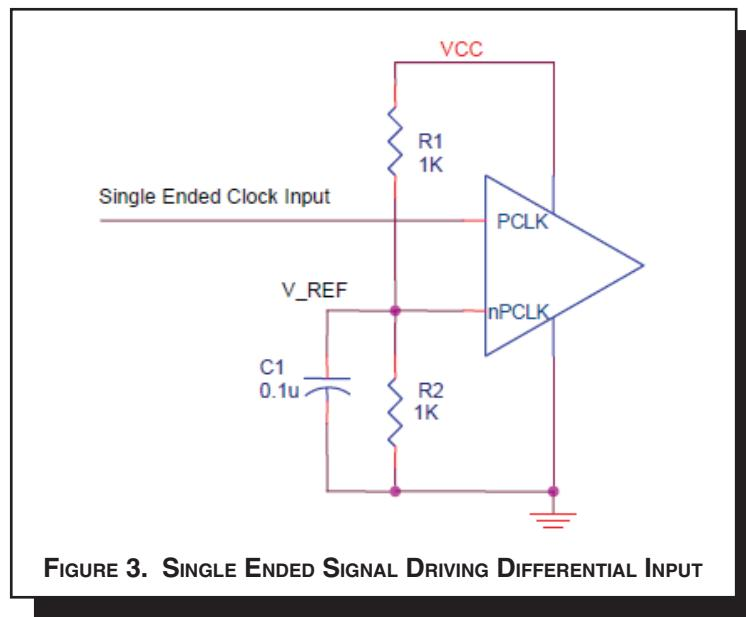

FIGURE 3. SINGLE ENDED SIGNAL DRIVING DIFFERENTIAL INPUT
*Figure 3* shows how the differential input can be wired to accept single ended levels. The reference voltage  $V_{REF} = V_{CC}/2$  is generated by the bias resistors  $R1$ ,  $R2$  and  $C1$ . This bias circuit should be located as close as possible to the input pin. The ratio